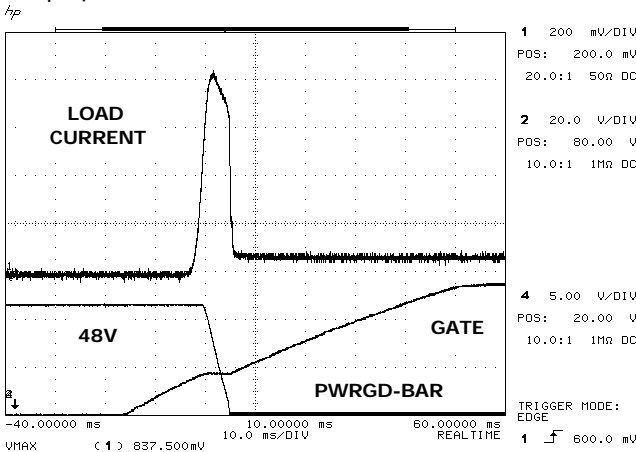

FIGURE 26. INRUSH CURRENT
In the example in Figure 26, the supply voltage is 48V and the load resistor (RL) is 620Ω for around 80mA. The load capacitance is 100μF (100V). The Sense Resistor (R1) is 0.02Ω (trip point at 2.5A; well above the inrush current here).